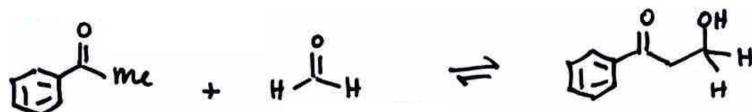

Figure 5.32: Cross-aldol reaction with only one enolizable species.
- Analogously to Figure 5.32, we can use a mixture containing only one enolizable position.